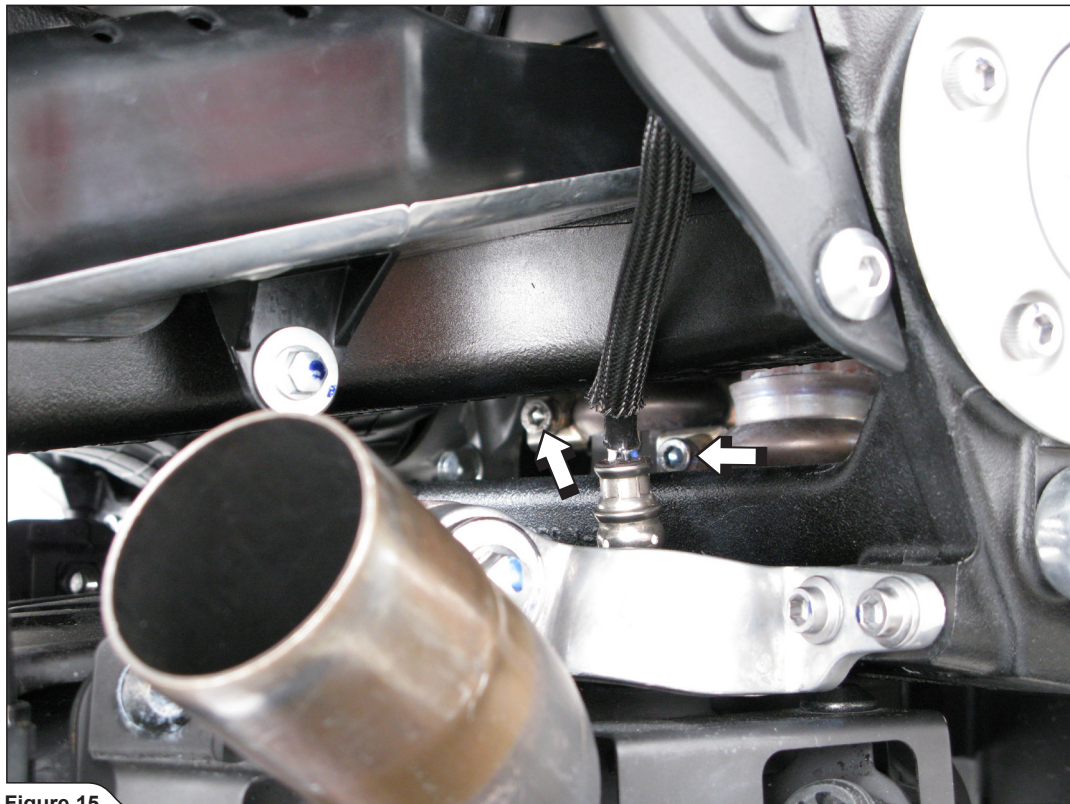

Figure 15
13. **For OPEN SLIP-ON only:** untighten the metal clamps at the catalytic converter box-header tubes joint (**Figure 15**).